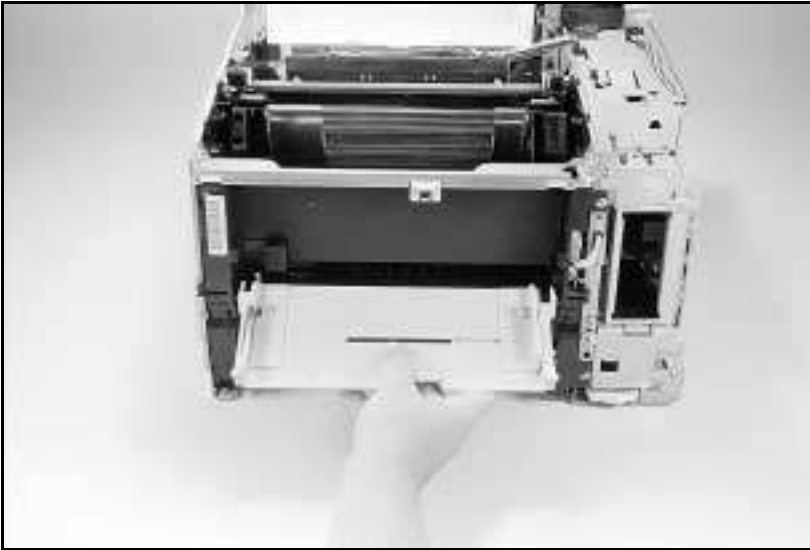

Figure 6-12 Rotate the Tray Down to Release the Hinge from its Slots
- 5** Rotate the tray down until it slides off its slotted hinges (about 120°)(see Figure 6-12).